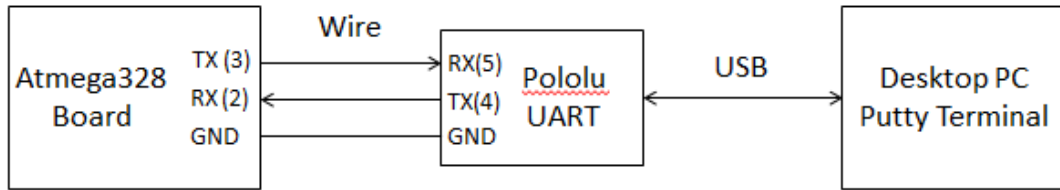

Figure 2 Crossover connections between two UARTs.
Figures 2 and 3 illustrate the serial connection between the Atmega328 board and the desktop PC using a Pololu Serial-to-USB adaptor. Note that the TX pin in the Atmega328 is connected to the RX pin in the USB adaptor and the RX pin to the TX pin in a crossover way.
- Connect the Atmega328 board to the desktop PC using the Pololu USB-to-Serial adaptor as shown in Figures 2 and 3. You can use Velcro pads to attach the USB adaptor on the protoboard.